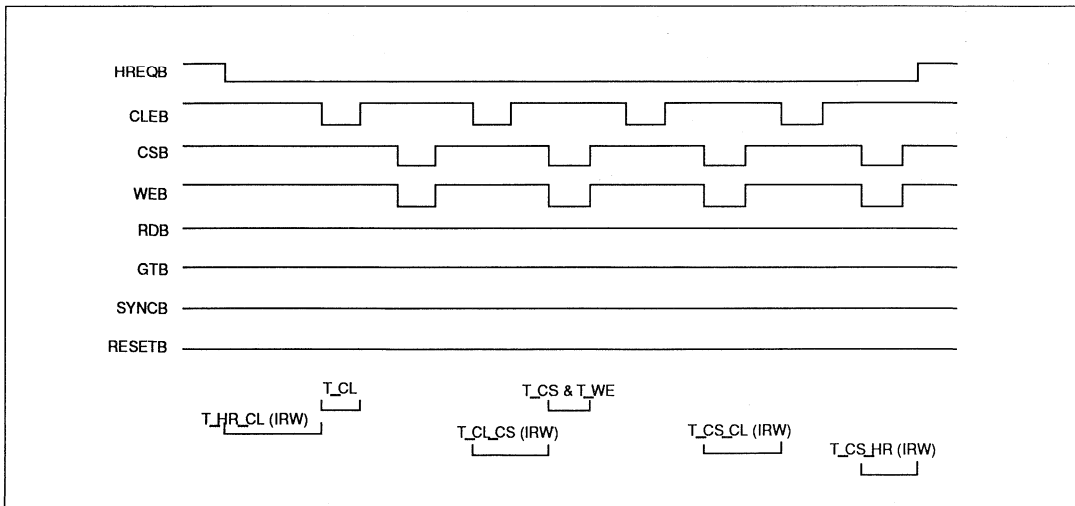

Figure 6.1: Register Write Sequence
The timings are fixed and there is no GTB (see Figure 6.1). The IRW sequence has low priority and will be aborted if the MA805 is required for command servicing.
- 1) Automatic (IRWB=0), (Figure 6.1 and 6.2).